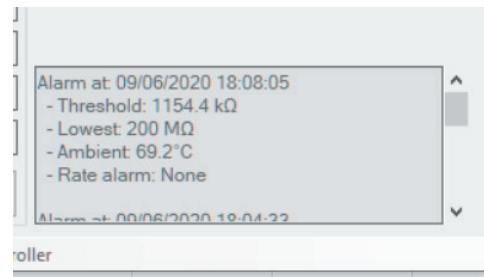

Figure 5. Screenshot of PC Programmer software showing the alarm log
4. An example alarm log event is shown in Figure 5.